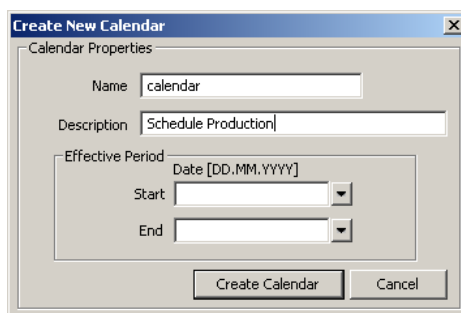

Figure 163: Create New Calendar dialog box.
3. In the Create New Calendar dialog box (as shown in Figure 163) enter Name and Description of the calendar. Note, that a BACnet calendar does not have the **Effective Period** settings.